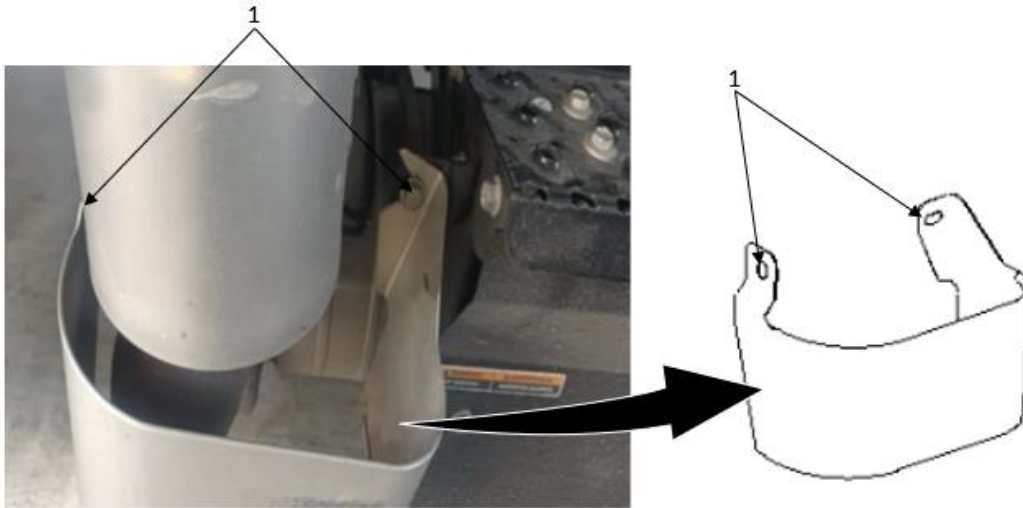

Figure 1. Exhaust Heat Shield
1. Latching bolt (2)
7. Remove latching bolts and washers (Figure 1, Item 1) save bolt, washer and heat shield for reuse.
10. Using a torque wrench, tighten latching bolts (Figure 1, Item 1) to 23 lb-ft (31.18 Nm). Go to Step 14.
13. Using a torque wrench, tighten latching bolts (Figure 1, Item 1) to 23 lb-ft (31.18 Nm).